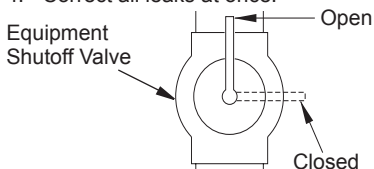

Figure 14 - Equipment Shutoff Valve
1. Close equipment shutoff valve (see Figure 14).
1. Open equipment shutoff valve (see Figure 14, page 12).
- Close equipment shutoff valve (see Figure 14, page 12).